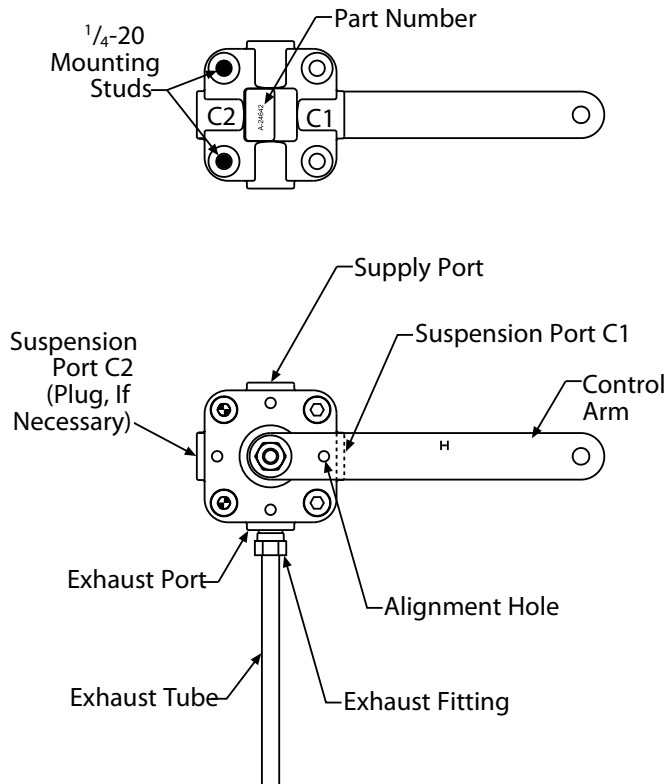

Figure 1. The Barksdale non-delay height control valve
2. Ports C1 and C2 on the forward and rear face of the height control valve are the suspension ports. Attach the air line(s) from the air springs to the C1 and/or C2 port(s) (Figure 1).
4. Attach air supply line from the pressure protection valve to the supply port on the top of the height control valve (Figure 1).
5. Install the exhaust fitting into the exhaust port (Figure 1).
3. Insert the wooden centering dowel into the control arm alignment hole and engage into the housing (Figure 1).